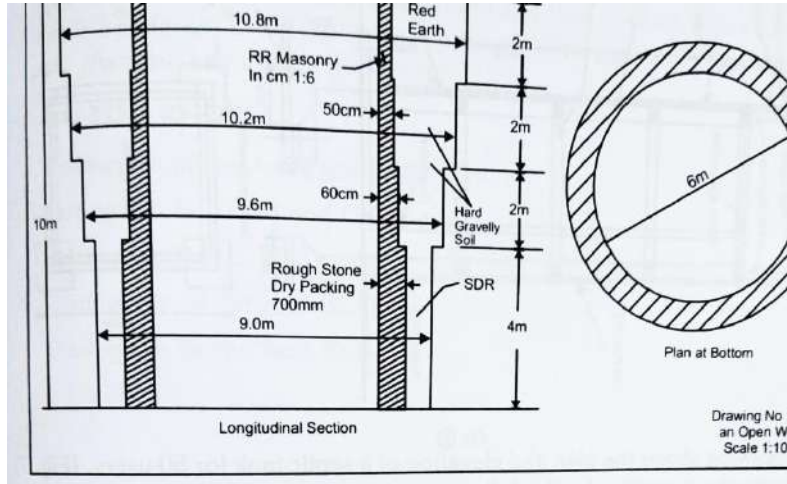

Fig.6
13. A) Calculate the following quantities of an open well shown in fig.6